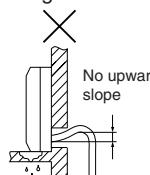

Fig. 2
- Do not route the drain piping as shown in Fig. 2 to 5.